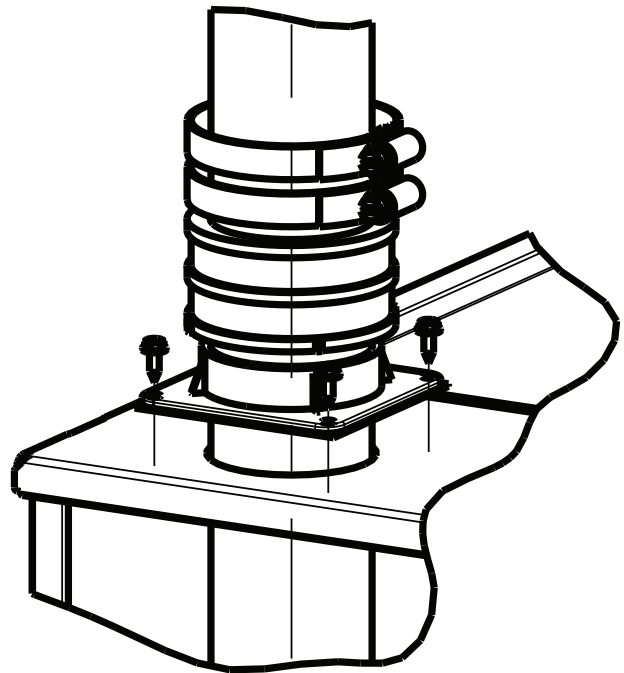

Fig. 10 - Vent Pipe Adapter Exploded View
10. Tighten the clamp of the coupling over the vent pipe adapter. Torque the lower clamp around the vent pipe adapter to 15 lb-in (1.7Nm). Assembly is shown in Fig. 10.
19. Tighten the clamp of the coupling over the combustion air pipe adapter. Torque the lower clamp around the vent pipe adapter to 15 lb-in (1.7Nm). Assembly is shown in Fig. 10.